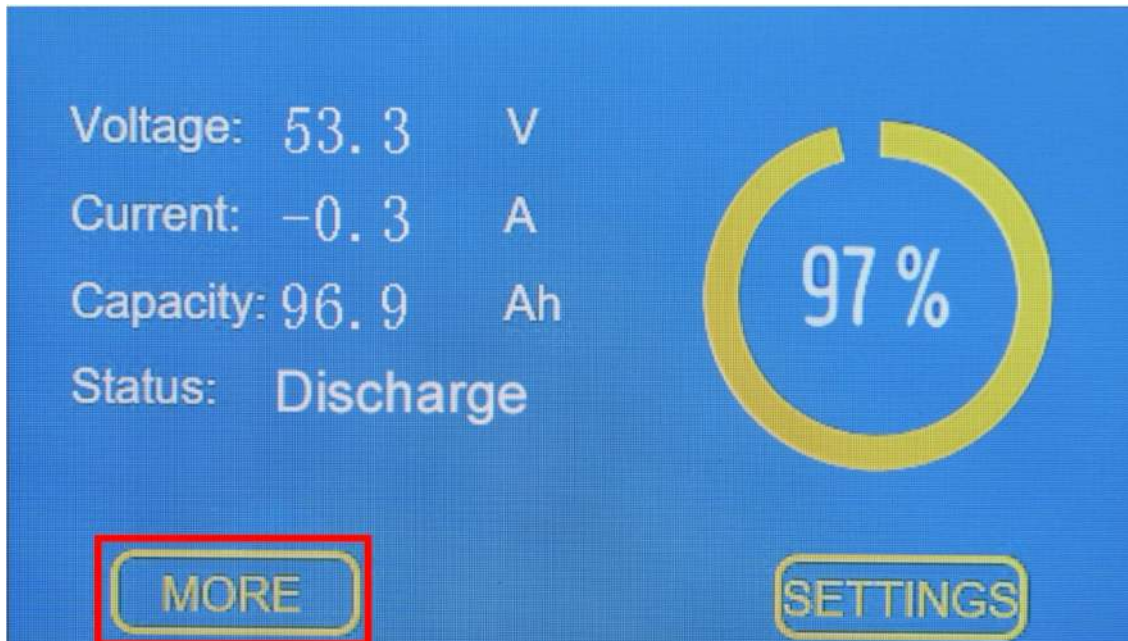

Figure 38: Home Screen – Navigating to Alarm Details
- Navigate to the alarms page by clicking on the “More” Button on the Home Screen as per Figure 38